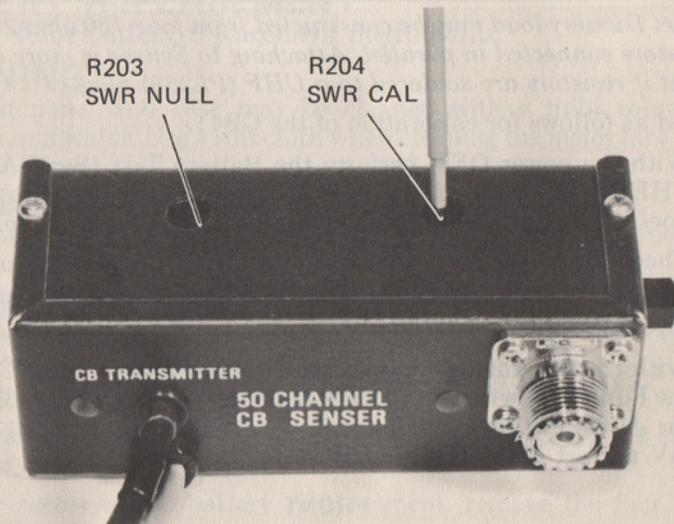

Fig. 15 — SWR calibration locations in 39G101 Sensor
10. Plug the 25 ohm load into the Sensor Antenna Jack. Switch the ANT/LOAD switch to "ANT" position. Key the CB transmitter and adjust SWR Cal R204 in the Sensor (Fig. 15) for an SWR reading of 2.0. Release the PTT switch and remove the 25 ohm load.